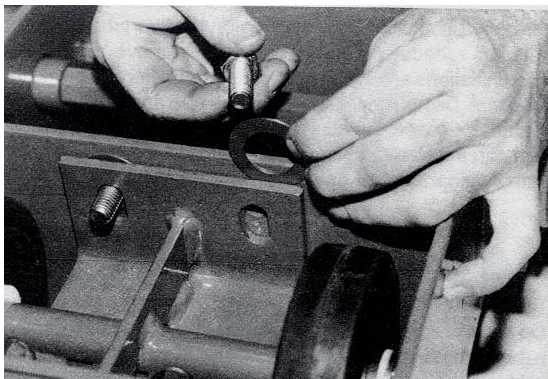

FIGURE 50
2) Shim washers of .015 inch (.381 mm) thickness are sometimes utilized when fastening the front axle assembly to the main frame. Install washers as required. FIGURE 50. The fasteners that attach the front axle assembly should be tightened until slight tension is applied. Always position the 1/2 inch flat washers against the slots provided in the axle assembly.